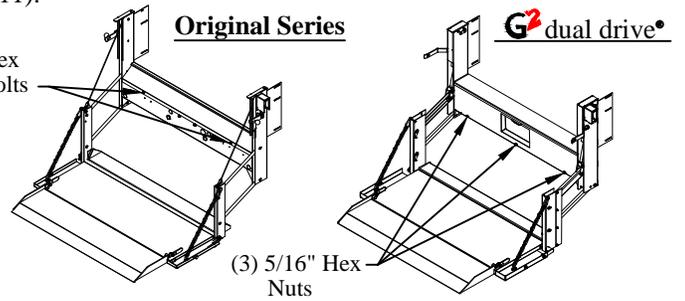

Figure 11: Box cover locations.
2. **Mark** two (2) 1/4" hole locations on the truck body using the tube holder as a guide.
3. **Check** for obstructions and **Drill** two (2) 1/4" holes in the positions marked in step 2.
4. **Fasten** the tube holder with the supplied two (2) 1/4"x3/4" bolts and locking nuts.
5. **Remove** and **Discard** the black plastic plug in the rear of the liftgate for spare tire tube access (Figure 11).
1. Remove the box cover by removing the 5/16" hex head nuts (Figure 11).